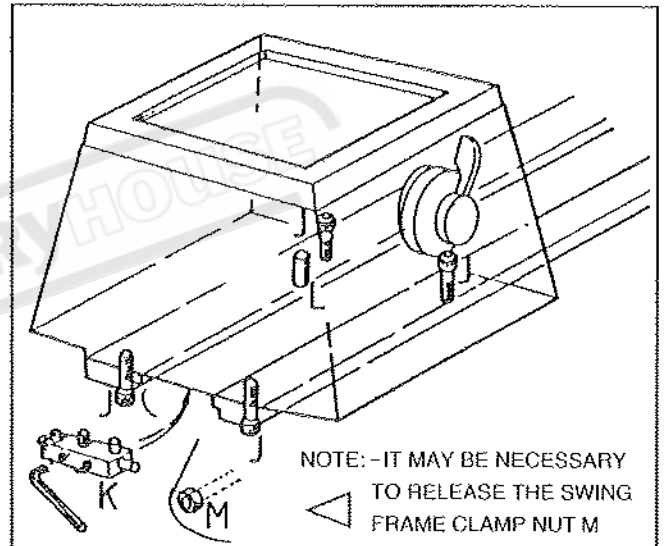

Fig.19
To correct a difference in readings, slacken the four headstock hold-down screws (J) shown in (Fig.19.) and adjust the set-over pad (K) beneath the headstock to pivot the headstock about the dowel (L). Tighten all screws after adjustment and repeat the test-cut/micrometer-reading sequence until micrometer readings are identical, i.e. machine cuts absolutely parallel.